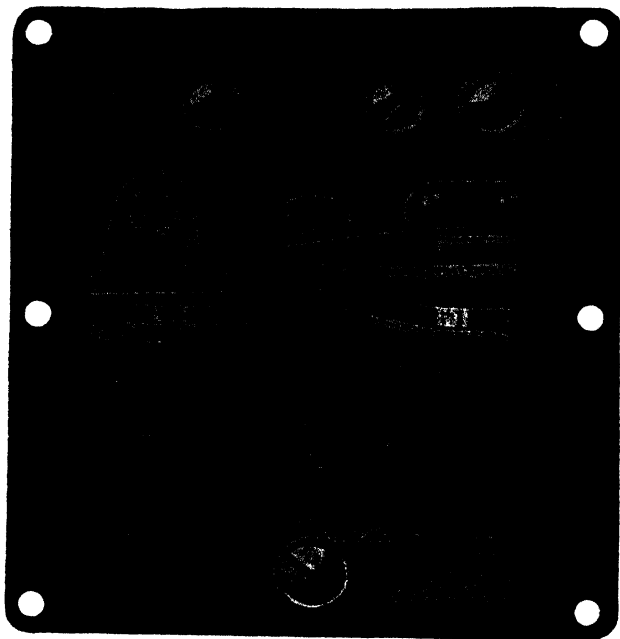

Fig. 364. Westinghouse Cut-Out Switch of Generator with Third-Brush Regulation
**Battery Cut-Out.** The type of automatic cut-out used with the type of generator employing the third-brush method of regulation is illustrated in Fig. 364. This may or may not be combined with a starting switch mounted on the engine side of the dash or some similar location. Fig. 365 is a wiring diagram showing the connections of the separately mounted cut-out with the third-brush generator. The cutting-in speed varies from five to ten miles per hour on high gear, varying with the gear ratio and wheel diameter of the car. This speed may be determined by running the car slowly and speeding up very gradually, meanwhile observing the increase in speed on the speedometer. The point at which the contacts close